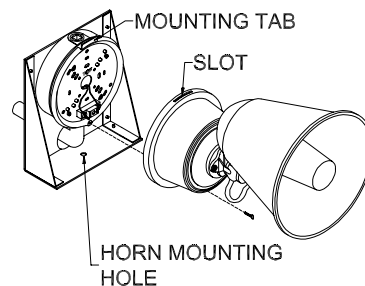

Figure 10 Horn Assembly and Mounting
17. Fasten the horn assembly to the scoreboard using the mounting bolts from the scoreboard as seen in figure 10.